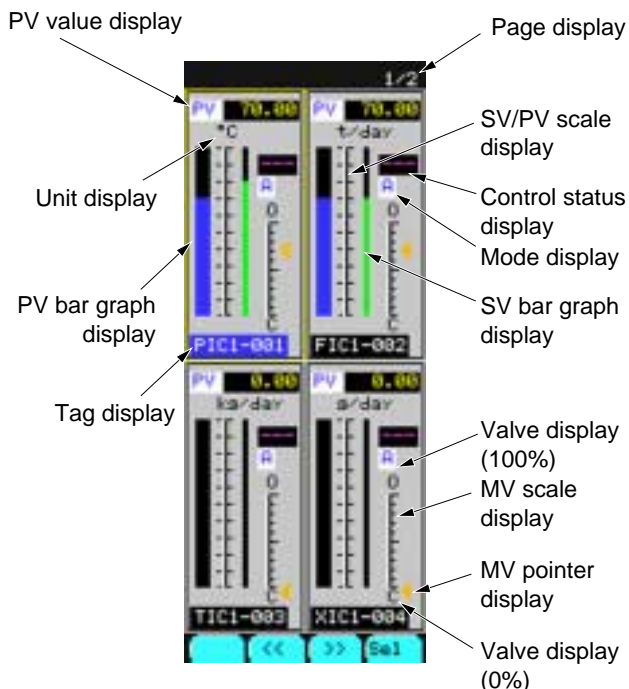

Fig. 6-2 4 LOOP screen
(3) Description of each item on 4 Loop display screen (Fig. 6-2)